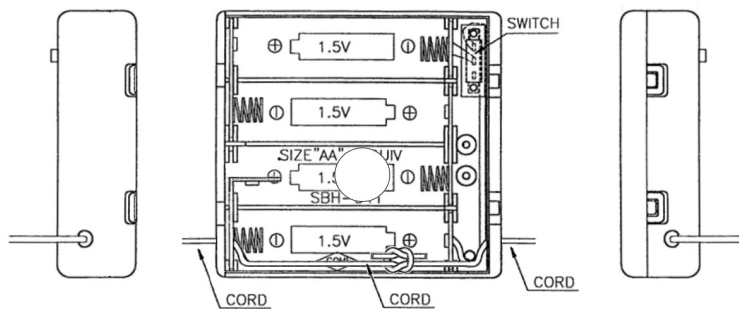

Fig 3U - Inserting neck cord
- 7 - Thread the neck cord through both holes and tie a knot inside the box [Fig 3U]